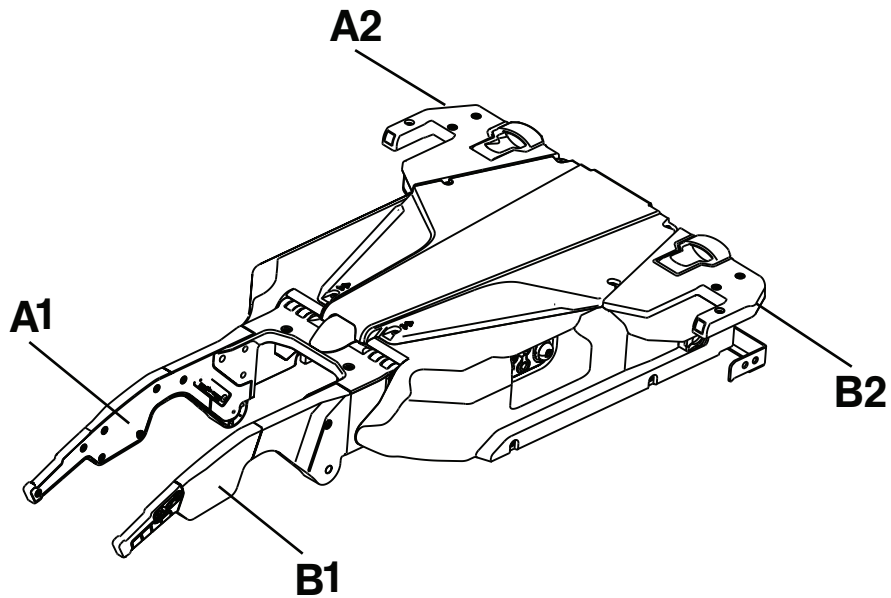

Figure 5: Trolley hand positions
- Installer 1, position hands at A1 and A2 (Figure 5 on page 40).
- Installer 2, position hands at B1 and B2 (Figure 5 on page 40).